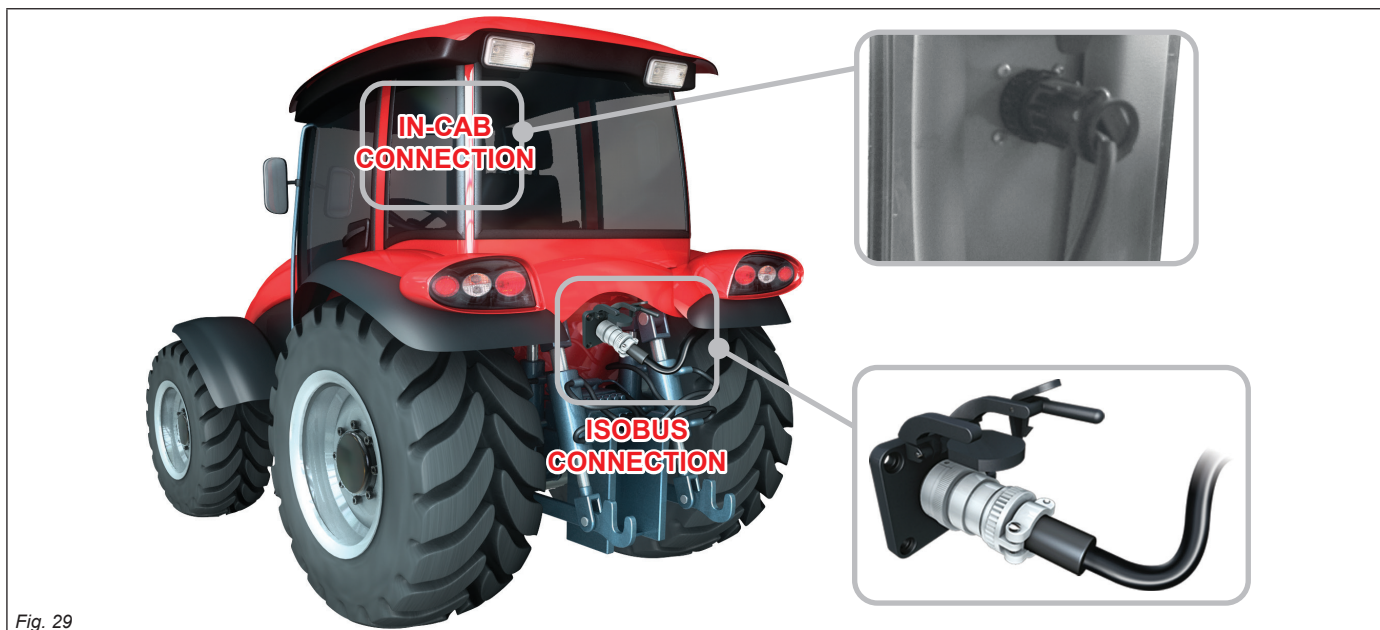

Fig. 29
**Connection:** Fit the connectors (**in-cab connection** in Fig. 29), ensure they are correctly in place and turn the ring nut clockwise until blocking them.
**Connections:** fix the connectors (**ISOBUS connection** in Fig. 29); make sure they are correctly fitted and push until locking them.